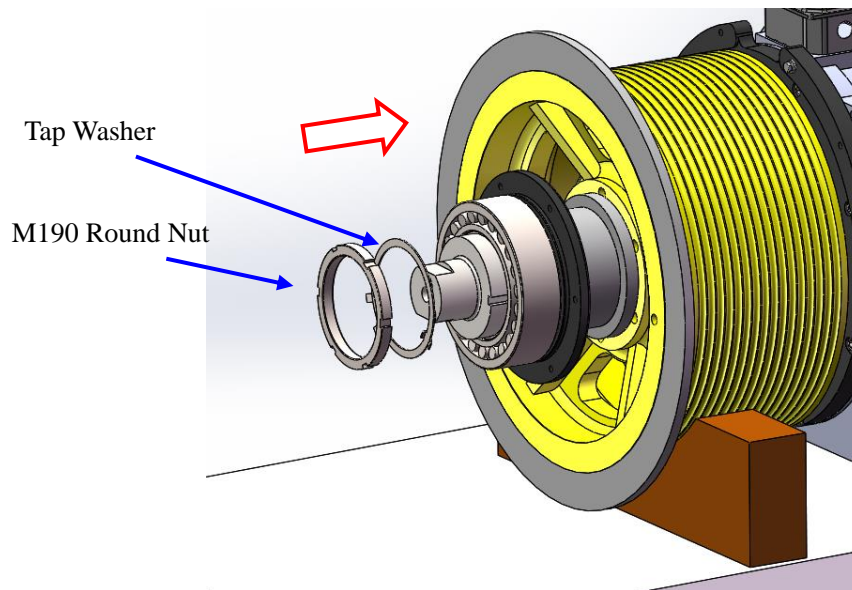

Figure 88: Reinstall the Tap Washer and M190 Round Nut
8. Install the Tap Washer and M190 Round Nut. **Make sure the beveled edge of the M190 Round Nut is toward the sheave.** Align a notch of the M190 Round Nut with a tab on the Tap Washer and bend down the tab into the notch. See Figure 88.
9. Install the pedestal on the main shaft. See Figure 88.